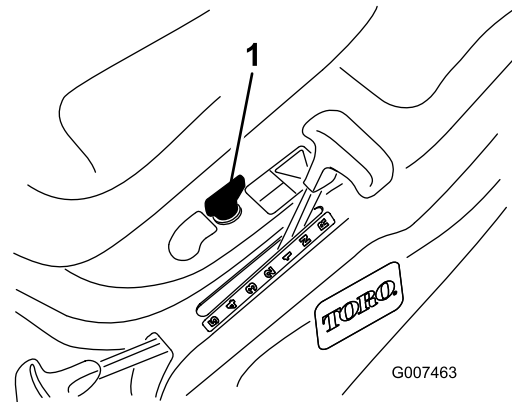

Figure 13
If you need to use the blade control (PTO) while backing up, turn off the interlock feature using the KeyChoice switch located near the seat bracket (Figure 13).
2. Insert the KeyChoice key into the switch (Figure 13).